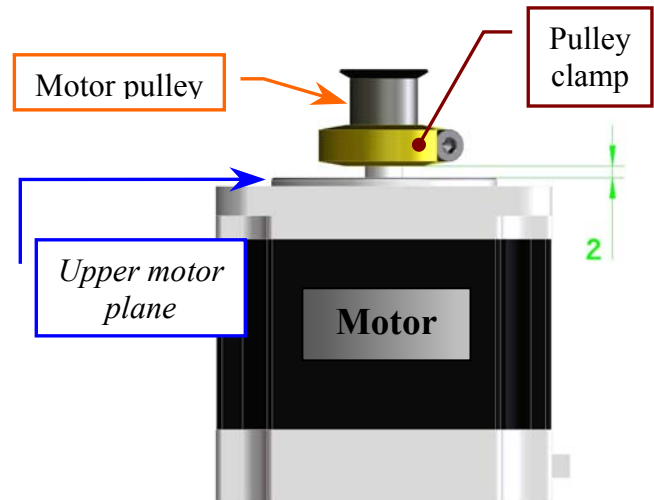

Fig. 102 – Plate Motor (scheme)
7. Insert the pulley clamp completely on the motor pulley (**Fig. 102**) and then insert all two on the motor shaft.
8. Position the motor pulley to **2.00 mm** with respect to upper motor plane (**Fig. 102**), then tighten the pulley clamp screw.